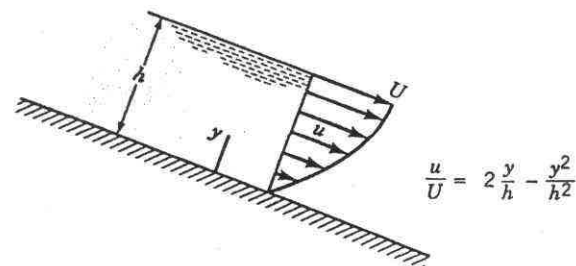

FIGURE P1.81
1.81 A layer of water flows down an inclined fixed surface with the velocity profile shown in Fig. P1.81. Determine the magnitude and direction of the shearing stress that the water exerts on the fixed surface for $U = 2 \text{ m/s}$ and $h = 0.1 \text{ m}$.